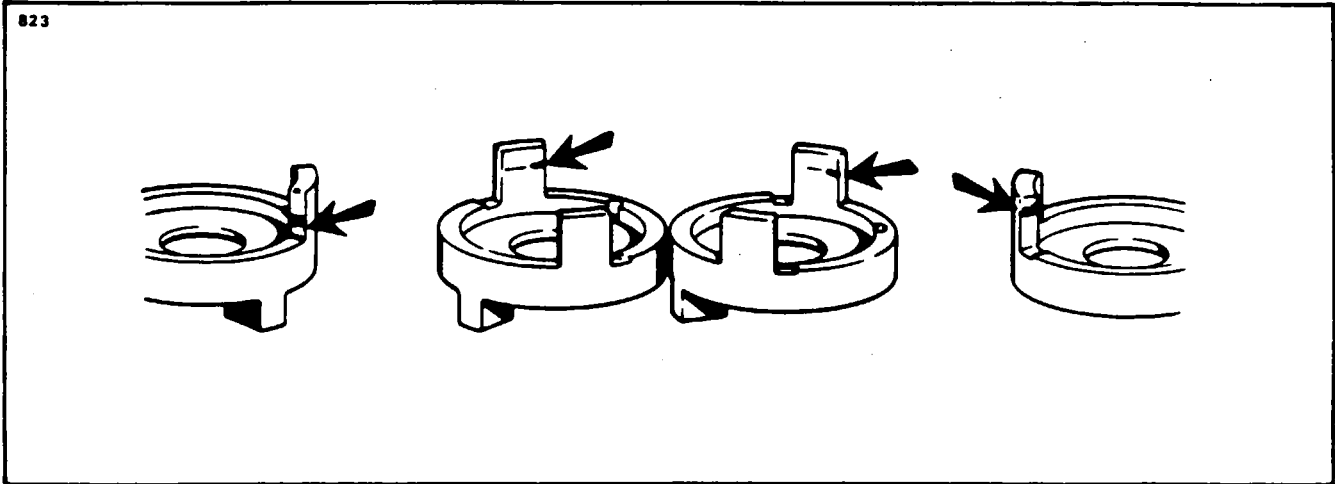

Figure 74-15. Points of Coupling Body Wear
6. Inspect ears of the coupling body for grooves worn by the tail of the flyweights and wear at the triggering ramp and cam stop contact areas. (Refer to Figure 74-15.) If either ear shows a perceptible groove or a ridge can be felt when fingernail is drawn across the surface, replace the coupling body.